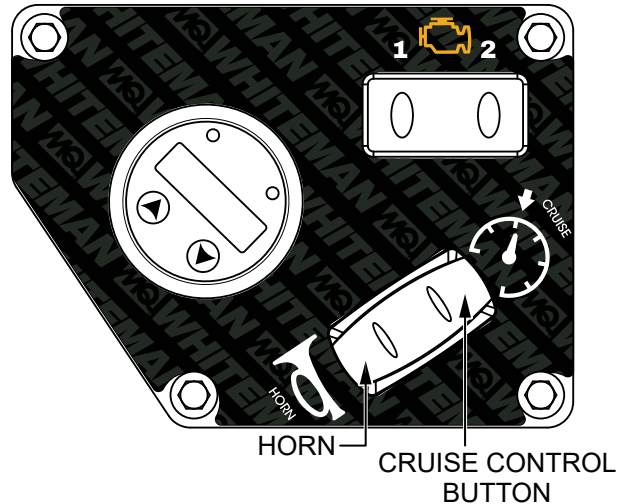

Figure 26. Cruise Control Button
- Press the **cruise control button** (Figure 26).